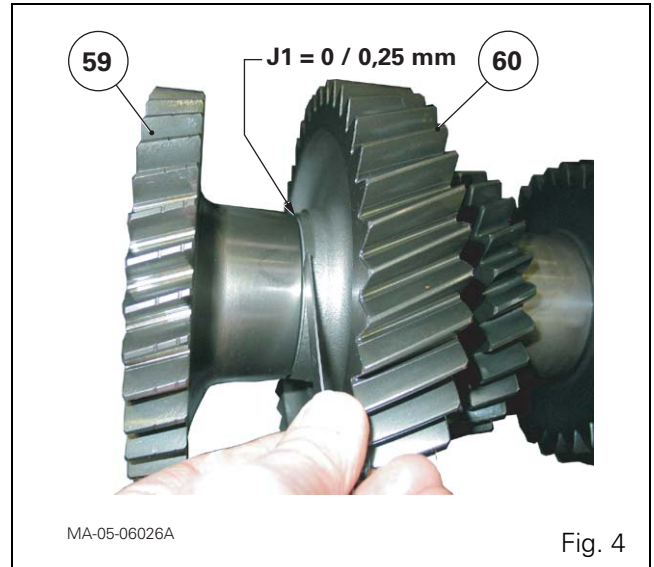

Fig. 4
29. Measure the space between the 1st pinion (60) and the 2nd pinion (59) using a set of shims (Fig. 4).
30. Depending on the measured distance, choose shims of an appropriate thickness to obtain clearance **J1 = 0 to 0.25 mm** (Fig. 4).
31. Remove circlip (61), opening it up as little as possible, and remove pinion (59).
33. Fit bearing cone (63) (see § E).
The coupler (8) is splined to the connecting shaft (21). Movement of lever "A" to Snail position (Fig. 4) moves the coupler (8) backwards and firmly joins it to the planet carrier (1) via its external teeth. The speed of the shaft (21) is 1/4 in relation to the output shaft.
The electrical signal corresponding to selection of the creeper range is sent via switch "C" fitted on the control unit (Fig. 4).